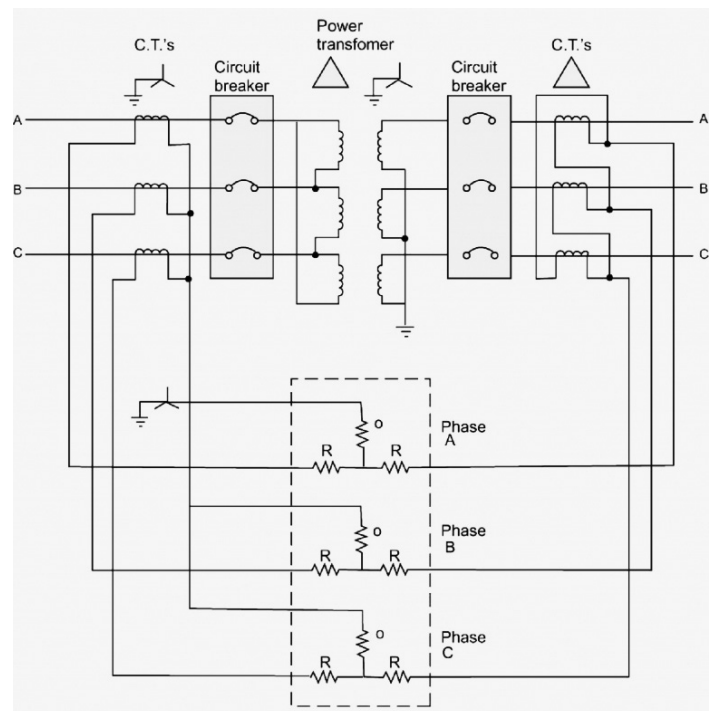

Figure 3 – Differential Protection of a Δ/Y Transformer
- 1. Figure 3 shows the differential protection scheme applied to a Δ/Y transformer.** When current transformers are connected in Δ, their secondary ratings must be reduced to $1/\sqrt{3}$ times the secondary rating of Y-connected transformers.